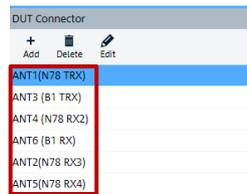

Figure 38 List of DUT antenna connectors
3. For the selected DUT, create an entry for each DUT antenna connector. An example in Figure 38 shows that 6 antenna connectors are entered for the selected DUT.